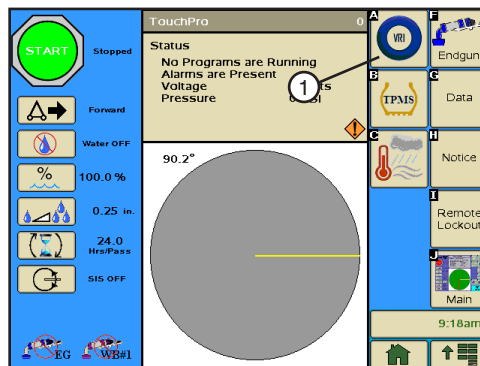

Figure 48-2 1. VRI Button
1. Push **Options, VRI** to display the VRI screen. Refer to Figure 48-2.